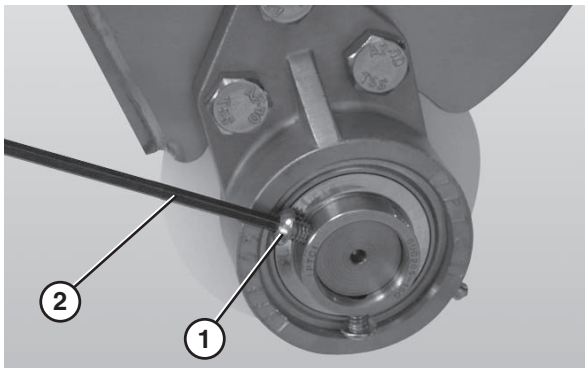

Figure 73
5. Tighten the 3 hole flange with bearing fasteners (**Figure 73, item 1**) using a hex wrench (**Figure 73, item 2**) to 54 in•lbs (6 N•m). Check after 24 hours of conveyor use.